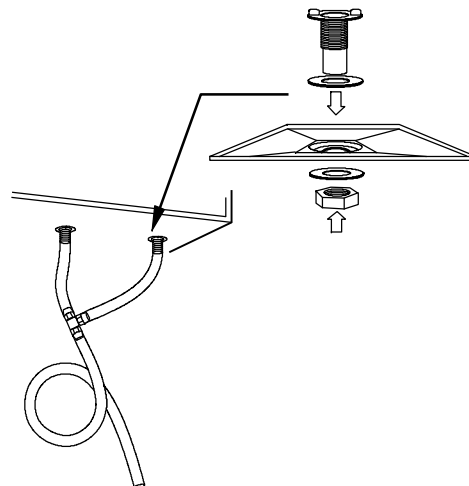

Fig. 9 - Condensate Drain With Loop Trap (HRV Only)
1. Punch out holes in foam insulation and door, then insert sleeved grommets into bottom of unit using the gasket washer and nut. (See Fig. 9.)
4. Make a loop in the tubing below the "T" connector to create a trap to prevent sewer gases from entering the ventilation system. (See Fig. 9.)